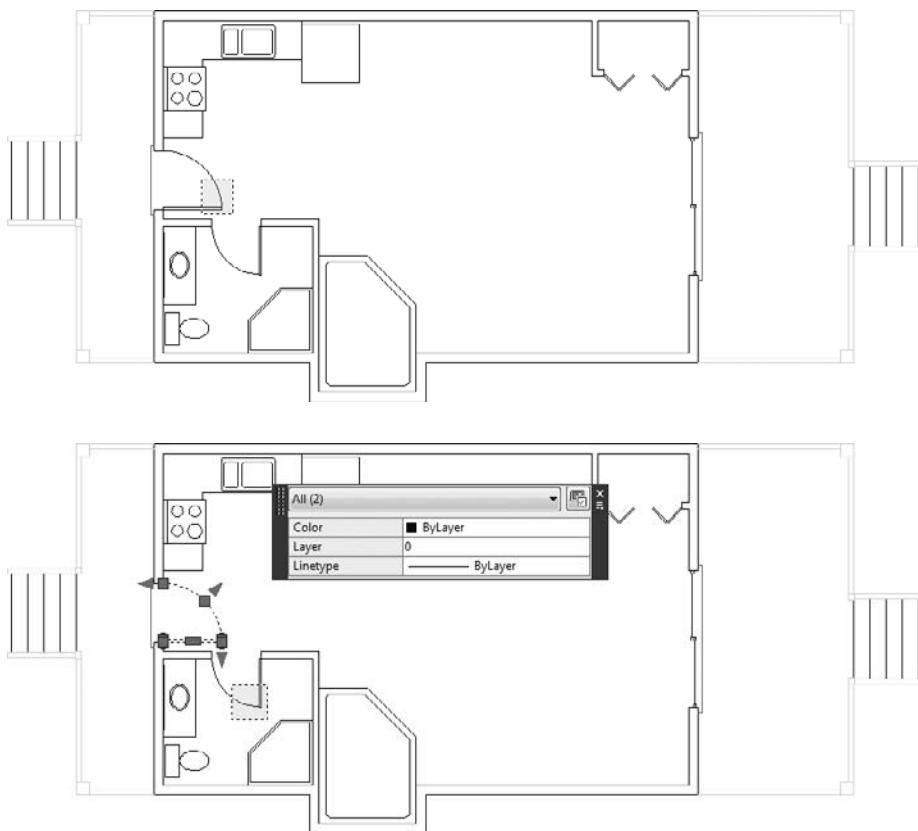

FIGURE 6.23 Using a crossing window to select the doors and swings: the back door (top), the bathroom door (bottom)
2. Without any objects selected, use a crossing window to select the back door as shown in Figure 6.23.
To do this, use the cursor to select a point in the clear space to the right of the back door to begin a new selection window. Move your cursor to the left (selection window box should be green with a dashed border), and pick a point to the left that crosses the back door and swing but doesn't cross the wall line, as shown in the top of Figure 6.23.
4. Move to the bathroom, and select its door using another crossing window (with the back door still selected), as shown at the bottom of Figure 6.23.
To do this, use the crosshair cursor to click in the clear space below the door, starting a new crossing window. With your crossing window (green with a dashed border) started, proceed to move your cursor up to select a point that crosses the bathroom door and swing without crossing any wall lines or any of the fixtures (see the bottom of Figure 6.23). The bathroom door and swing are selected, and the quantity listed in the Quick View Properties palette updates.